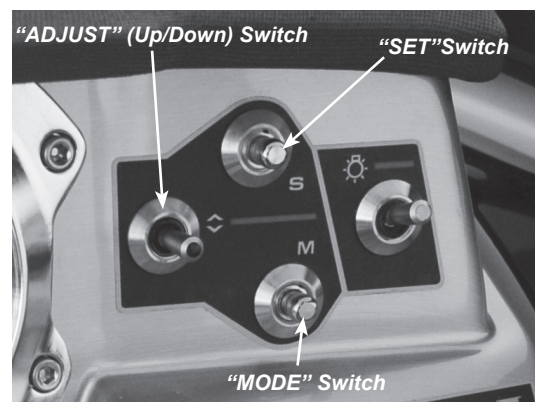

Figure D7: Digital Speed Control Switch
- b. Press MODE button repeatedly until CRUISE mode is displayed. See Figures D7, D8 & D9.